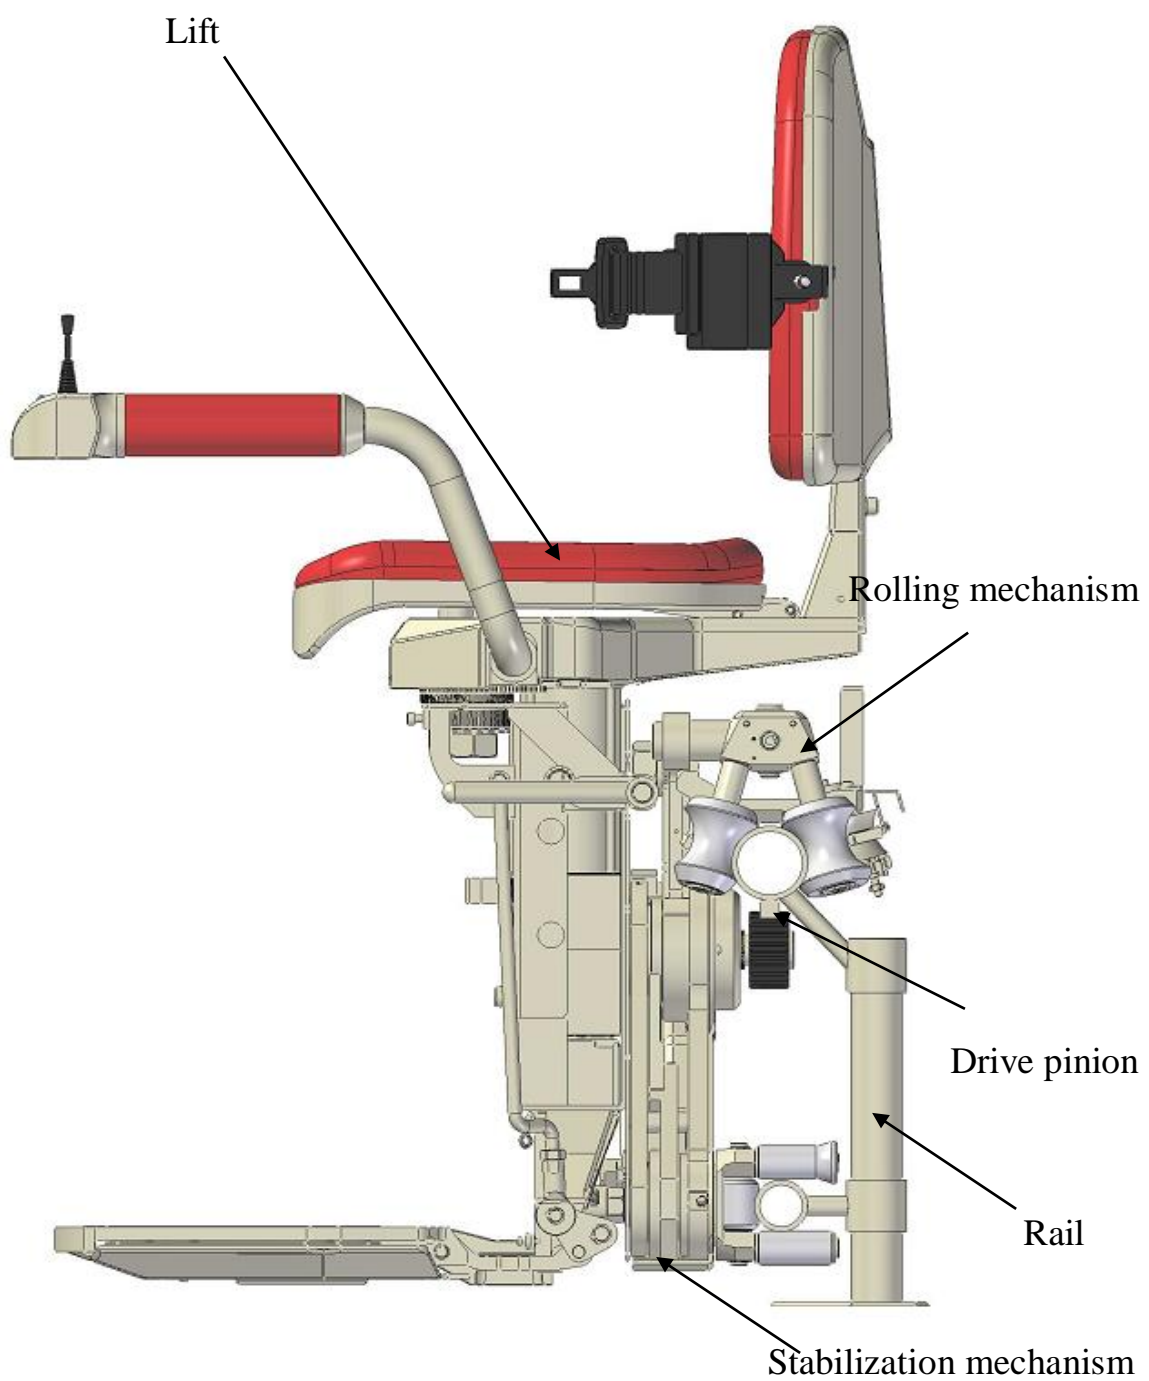
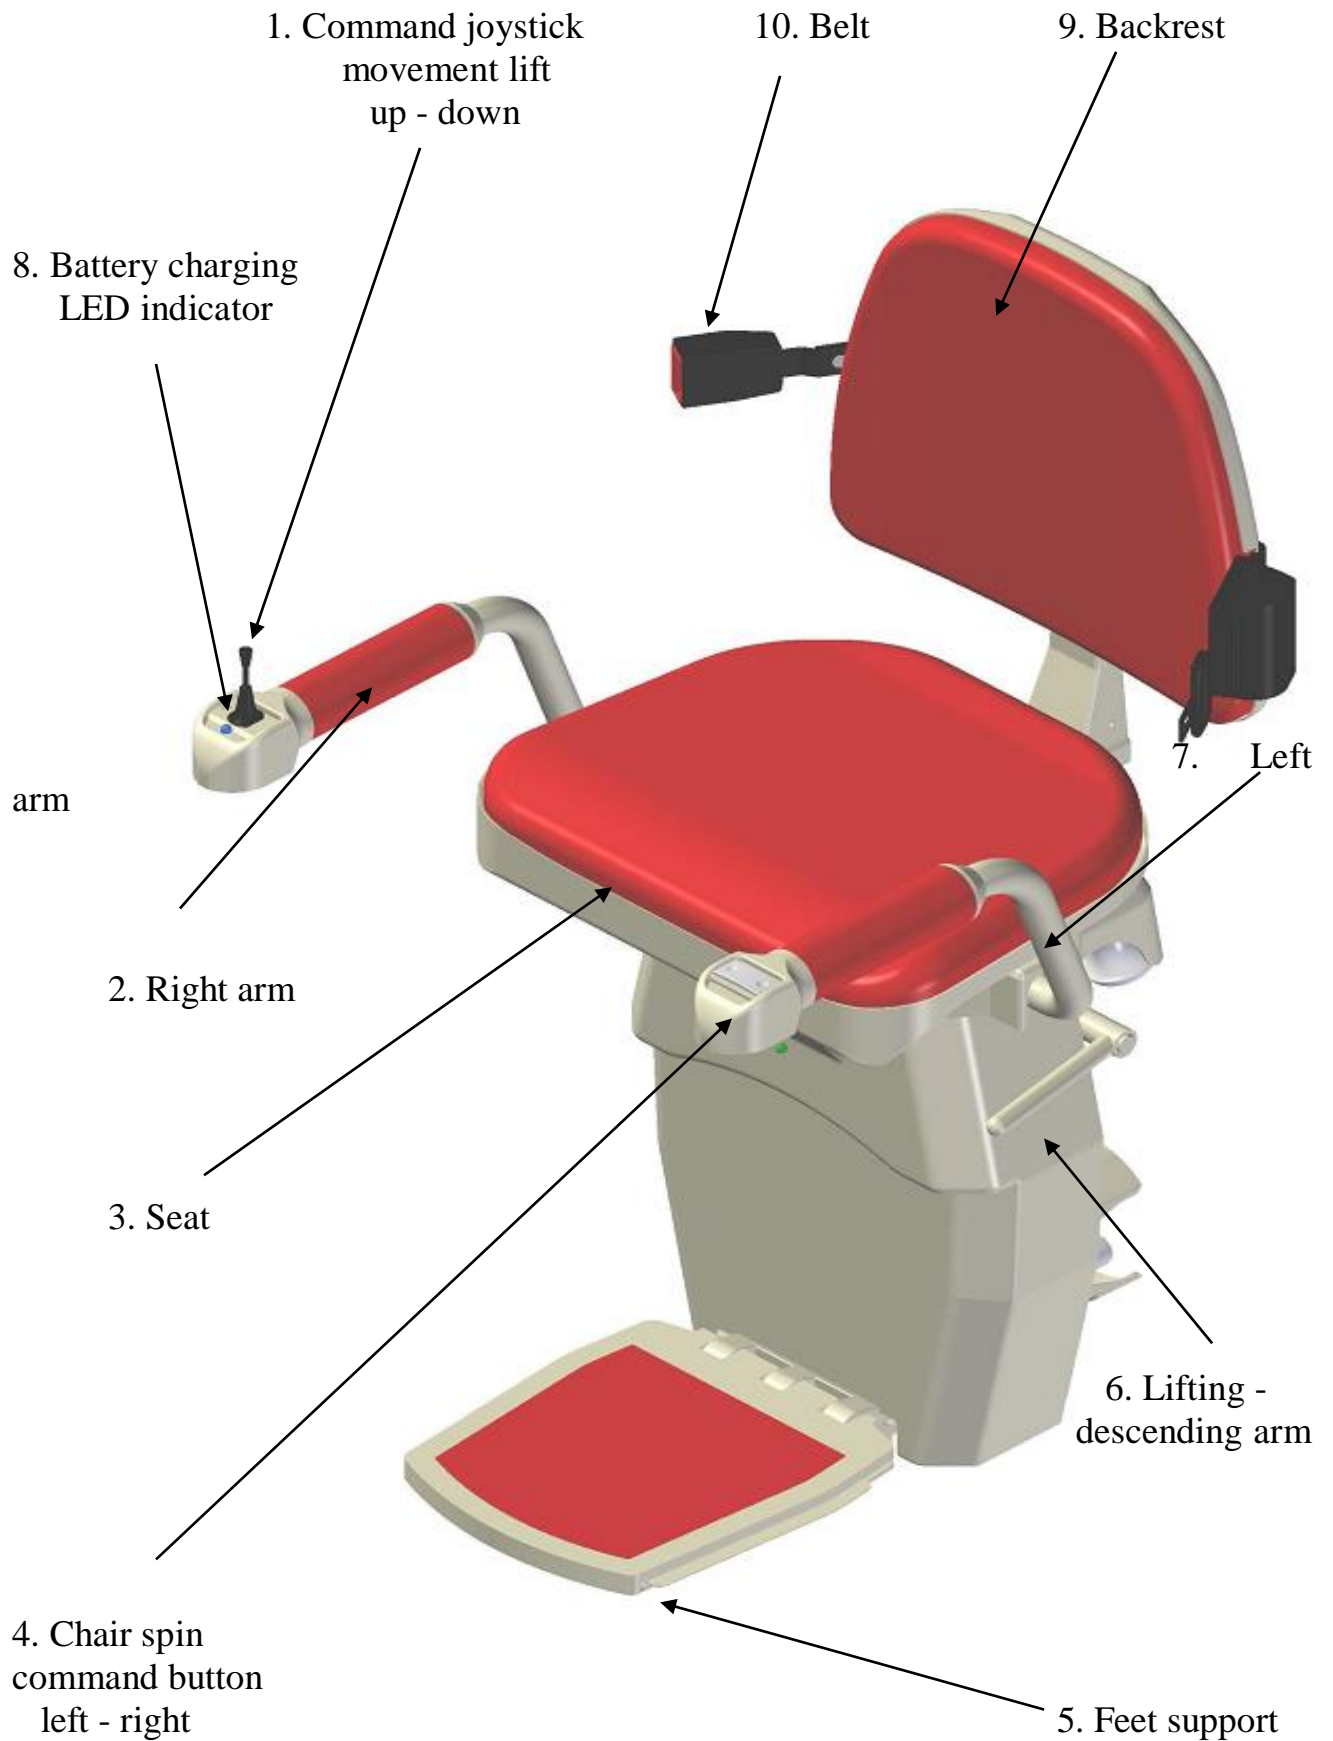

Fig. 2
Fig. 5
- bring down the arms (2) and (7) from the vertical position, as shown in fig. 4, to a horizontal position, as shown in fig. 5.
- the same applies to the seat (3)
- by lifting the handle (6), you can also tilt the foot rest (5) from a folded position fig. 2 to a use position fig. 5; after that, you can get on the lift. Starting and moving the lift is made by moving the joystick (1) fig. 5, as follows:
- to stop the lift at either end of the track, the control joystick must remain actuated until the lift reaches the charging contacts and stops on its own, followed by the blue LED (8) on the joystick arm lighting up, this indicating that the battery is charging from the power supply
- when the travel ends and the top of the track is reached, the seat (3) with backrest and arms (2) and (7) fig. 5 are rotated to max. 90° to facilitate the user to get on and off the seat. The standard stair lift is equipped with manual swivel seat function. Next are the steps for using this function:
This movement is controlled by button (4) fig. 5, as follows:
- lift the seat (3), arms (2) and (7), press the handle (6) fig. 5, then, using the remote, send the lift in the parking area
The LED (3) fig. 2 signals using a certain code (flashes) any possible malfunction (e.g.: the lift reached an obstacle without you seeing it, or the seat (3) fig. 3 is not in the correct travel position, and when any other protection sensor is activated).
The LED illuminates when the switch key (2) fig. 2 is inserted, and stays on all the time the lift is on.